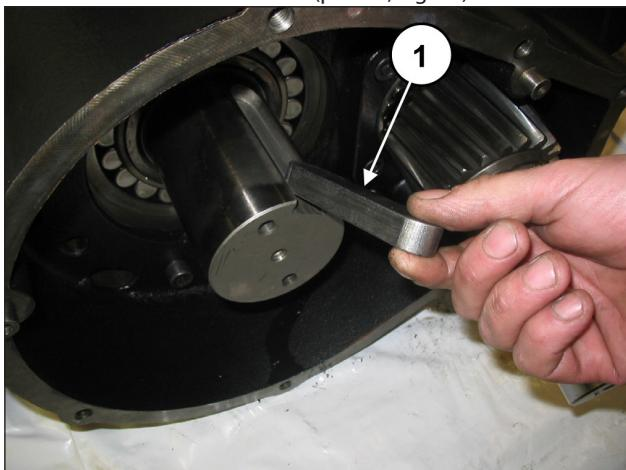

Fig. 13
Remove the tab from the shaft (pos. ①, Fig. 13).